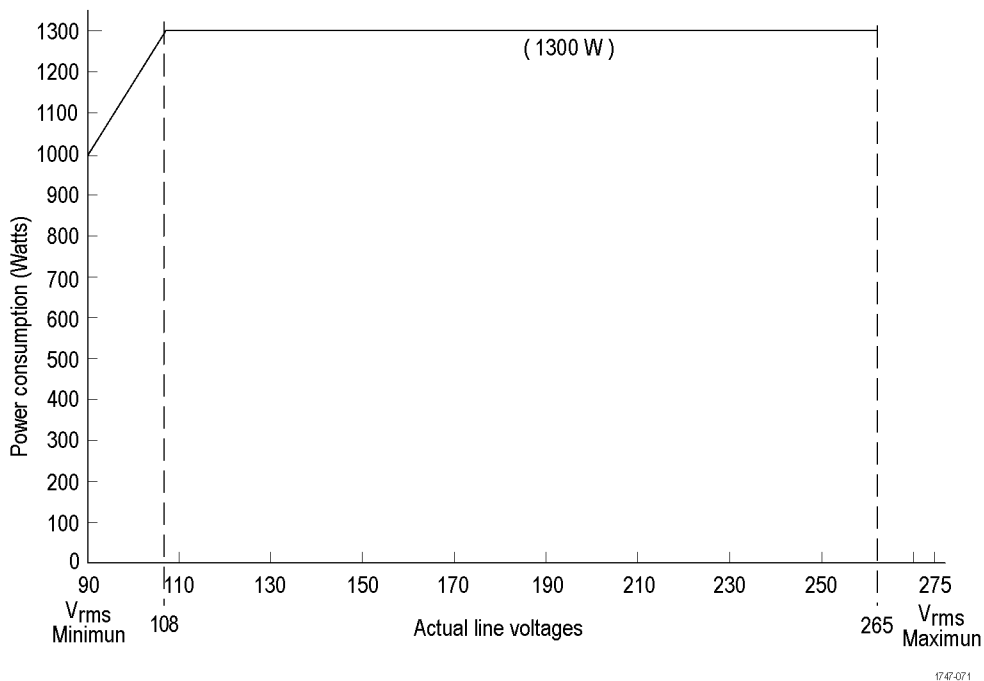

Figure 57: Maximum power allowed to modules at various line voltages for TLA7016 mainframes serial number B020000 and higher
3. Ensure that the total power consumption is less than the limits shown in the table. (See Figure 57 on page 76.)